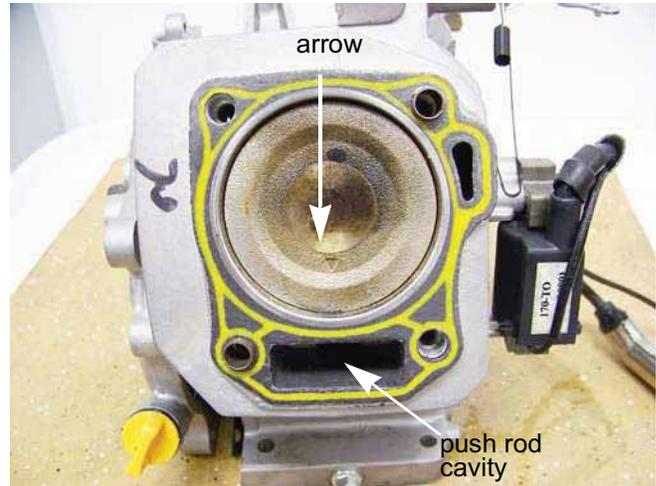

Figure 10.20
**NOTE:** The arrow on the piston must point towards the push rod cavity. See Figure 10.20.